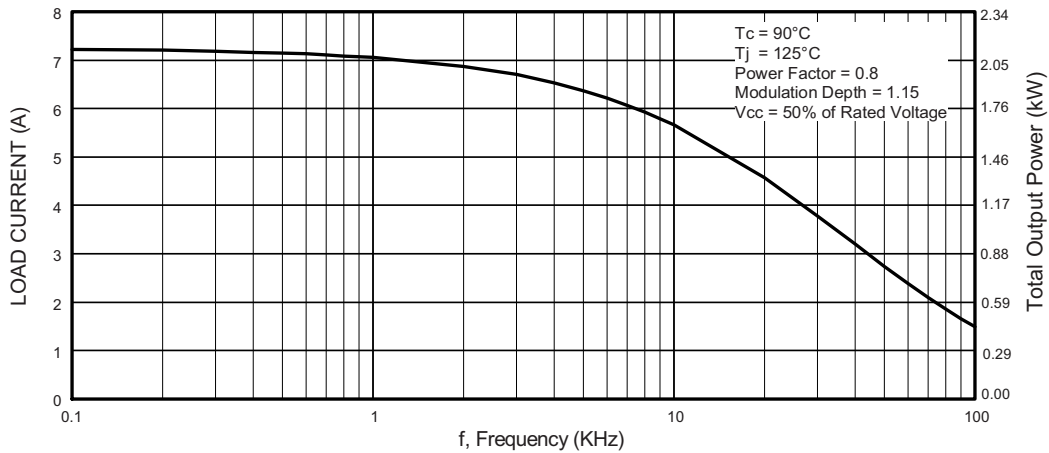

Fig. 1 - Typical Load Current vs. Frequency
Modulation depth (see fig. 1)	115 %
- Optimized for high speed, see fig. 1 for current vs. frequency curve